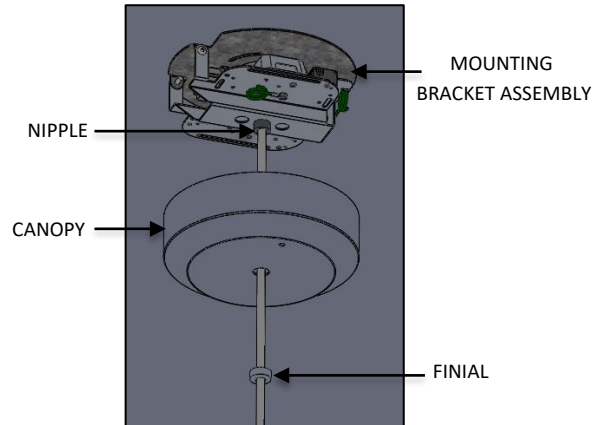

FIG. 15 – FINIAL INSTALLATION
9. Raise CANOPY and secure to ceiling by threading the FINIAL to the NIPPLE (available in MOUNTING BRACKET ASSEMBLY) as shown below in FIG. 15.